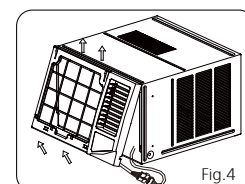

Fig. 4
2. Disconnect the coupler plugs and make sure not to interfere with the temperature sensor cable. Hold the left bottom side of the frame, lift it up to unlatch the lower side, remove it toward you (See Fig. 4)